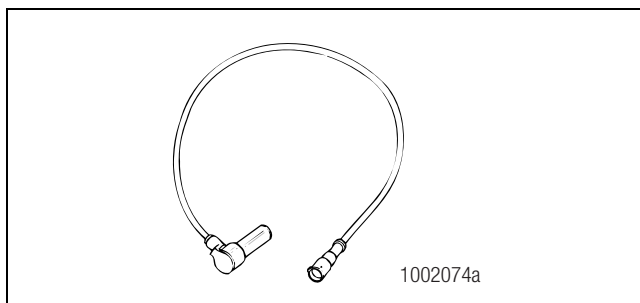

Figure 2.2
- Measures the speed of a tooth wheel rotating with the vehicle wheel. Figure 2.2.